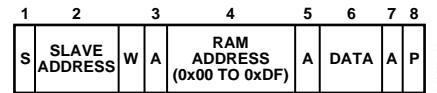

Figure 41. Single Byte Write to the RAM
- To write a single byte of data to the RAM. In this case, the command byte is RAM Address 0x00 to RAM Address 0xDE, and the only data byte is the actual data, as shown in Figure 41.